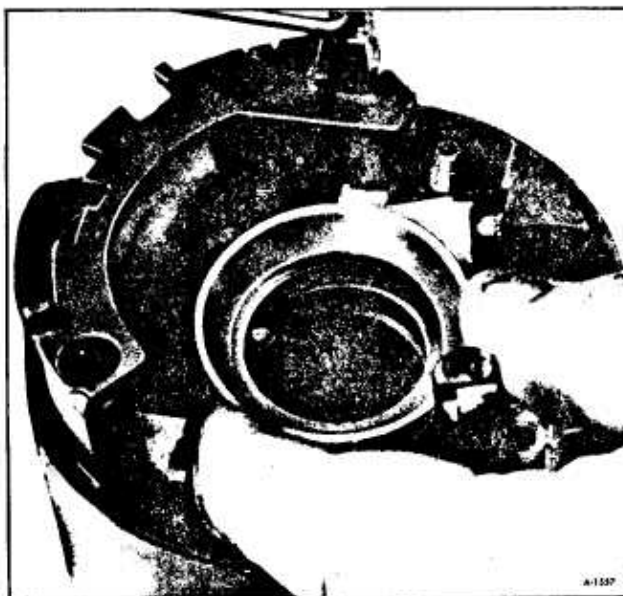

Figure 75-Removing Thrust Cup
16. Remove thrust cup. (figure 75).
6. Install the thrust cup on the bottom hub of the housing. (figure 75).